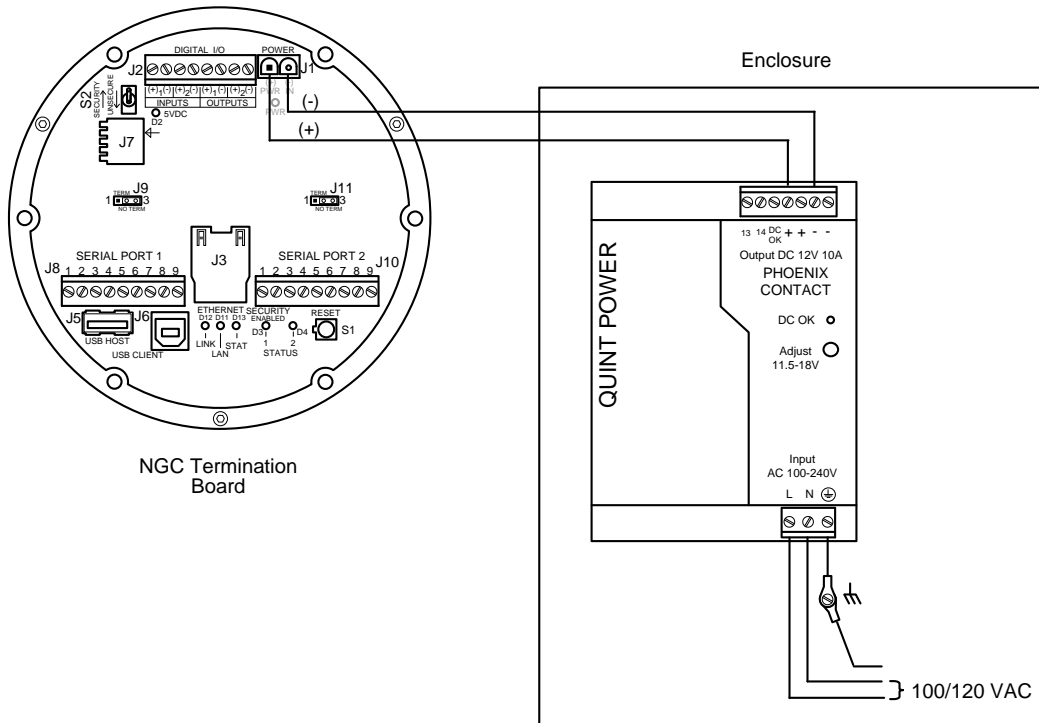

Figure 6-3 AC Charger/Power Supply Wiring
- 2) If the primary input AC voltage level is correct, and there is no DC output from the power supply, replace the F1 charger fuse (see Figure 6-3).